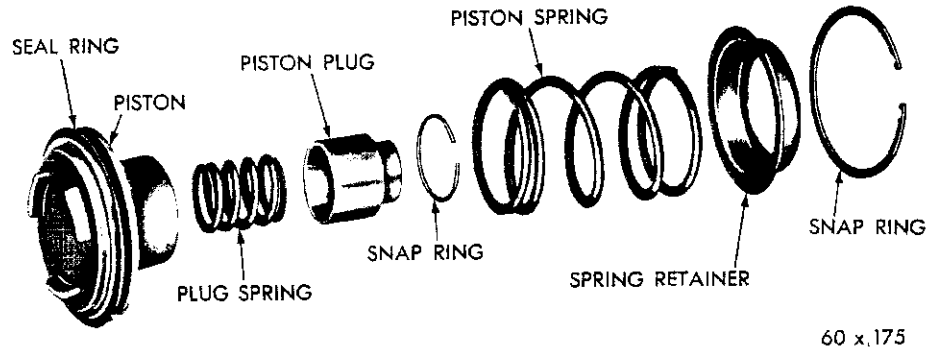
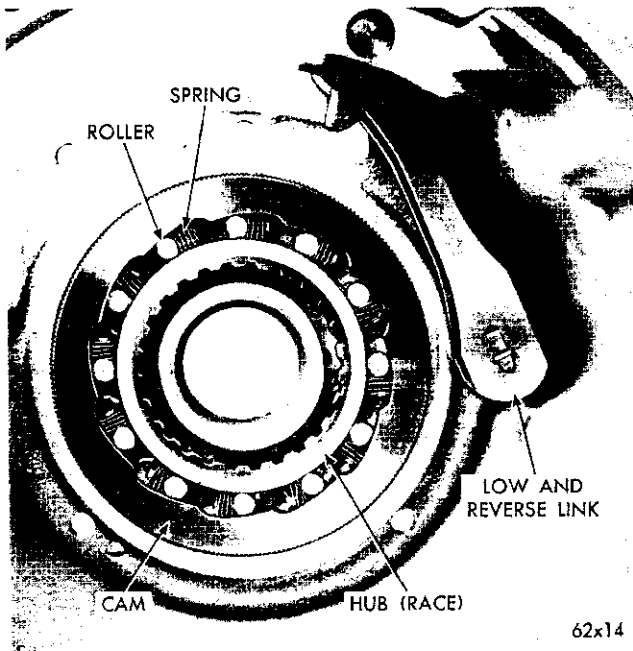
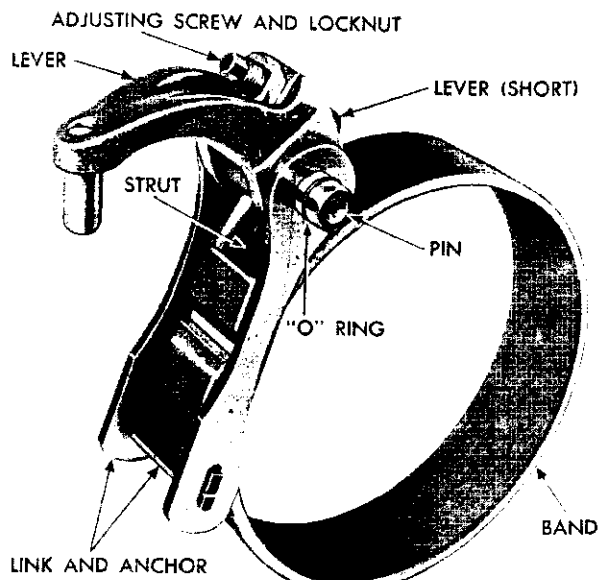

Fig. 76—Low and Reverse Servo (Disassembled)
Fig. 77—Overrunning Clutch, Low and Reverse Band Link
Fig. 78—Low-Reverse Band Linkage
(1) Remove the snap ring from the piston and remove the piston plug and spring (Fig. 76).
(1) With the transmission case in an upright position, insert the clutch race inside the cam. Install the overrunning clutch rollers and springs exactly, as shown in Figure 77.
(1) Carefully work the servo piston assembly into the case with a twisting motion. Place the spring, retainer and snap ring over the piston (Fig. 76).
(2) Compress the low and reverse servo piston spring by using "Engine Valve Spring Compressor Tool C-3422", then install the snap ring.
(3) Position the rear band in the case, install the short strut, then connect the long lever and strut to the band (Fig. 78). Screw in the band adjuster just enough to hold the struts in place. Be sure the long lever and strut assembly is installed, as shown in Figure 77, to provide running clearance for the low and reverse drum. Install the low-reverse drum.